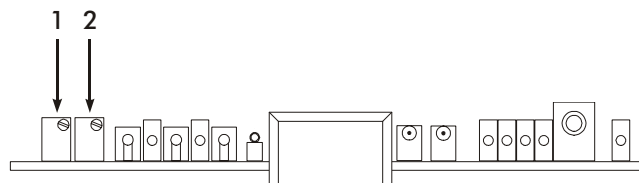

Figure 3-16. Input module, Bypass Level trim pots (1 and 2)
6. If necessary, adjust the trim pots on the Input module (Figure 3-16, below) for an SPL level that is 3 dB lower than the level that was noted when the power switch was ON (step 3, above). For example, turn Projector 1 potentiometer (on the left) to 82.